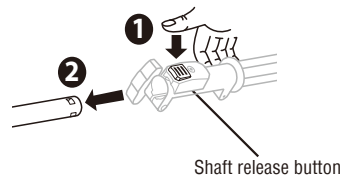

Fig.3B
3. Press the shaft release button (Fig.3B, 1), then pull the attachment shaft or extension tube out from the power head shaft and remove it (Fig.3B, 2).